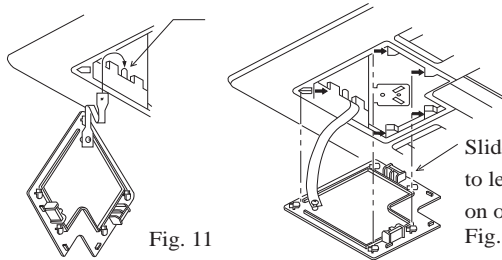

Fig. 11
① As shown in Fig. 11 tie the cover plate onto the bolt on ornament plate.
② Install cover plate onto ornament plate.